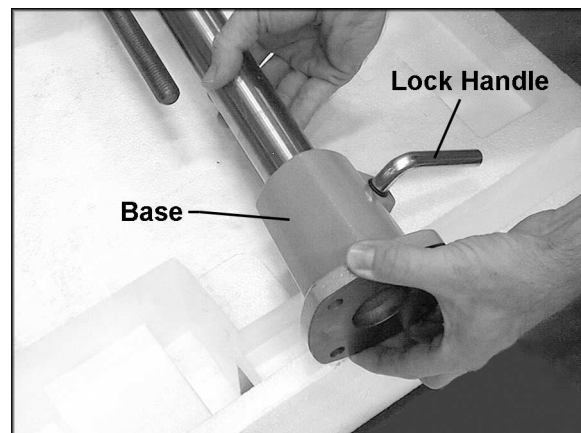

Figure 1
5. Loosen the lock handle and remove the base from the stand assembly, shown in Figure 1.